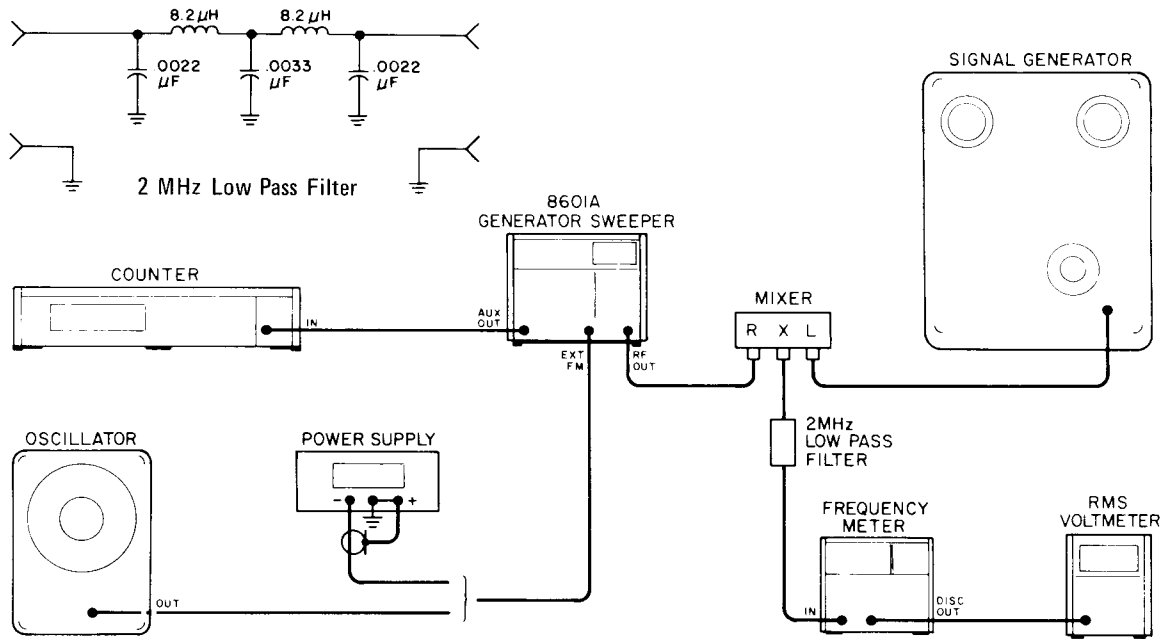

Figure 4-5. External FM Test Setup
1. Connect dc power supply and counter to 8601A as shown in Figure 4-5.
10. Connect equipment as shown in Figure 4-5. Set 8601A RANGE to 110, FREQUENCY to 60 MHz and adjust Signal Generator for 61.0 MHz at a level of about  $-10$  dBm.
1. Setup equipment as shown in Figure 4-5. Audio Oscillator, DC Power Supply and Counter/Marker Generator are not needed.